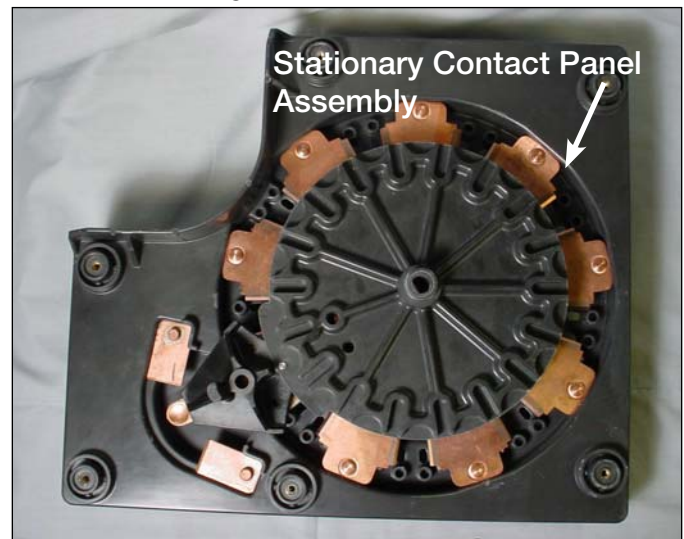

Figure 31.
1. Lay the contact panel assembly section flat on a table surface. See Figure 31